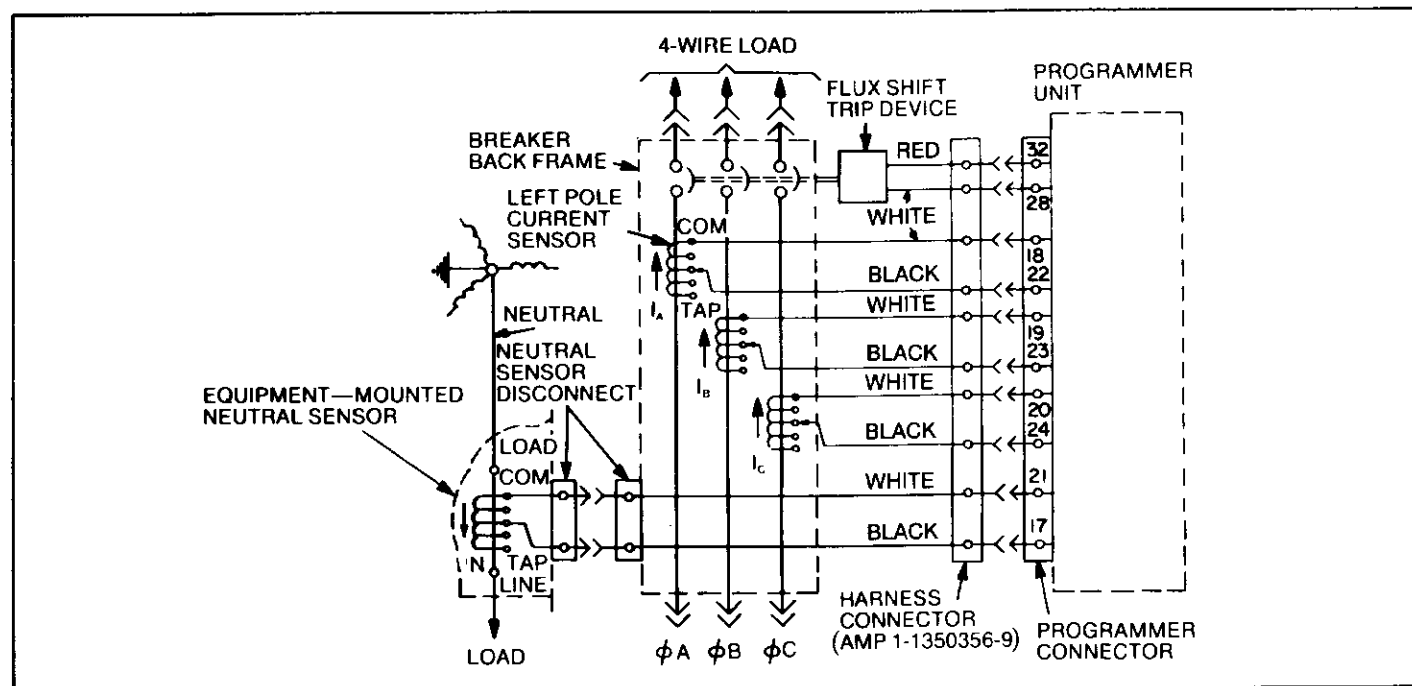

Fig. 25. Cabling diagram — MicroVersaTrip® with ground fault on 4-wire load-breaker reverse feed
- c. If the breaker's lower studs connect to the supply source, then the neutral sensor must have its LOAD end connected to the source. See Fig. 25.